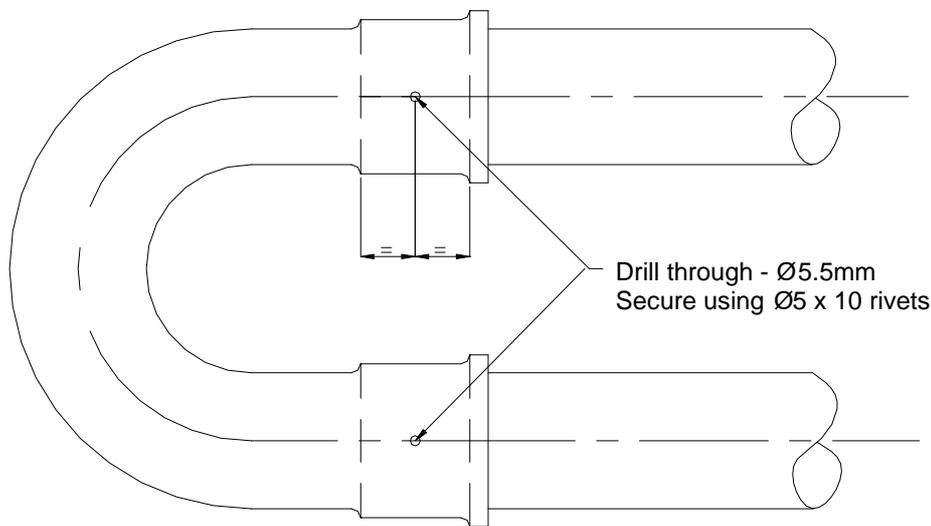

Fig. 21
- 4.4.2 Assemble the U Bend to the short Radiant Tubes, ensuring that the U Bend engages fully. Drill one Ø5.5mm hole through the U Bend and Radiant Tube in the upper surface of each leg of the U bend at a distance midway along the swaged portion of the U bend as shown in Fig 21. Rivet the U Bend to the Radiant Tube assemblies using the two Ø5 x 10 rivets provided (fastenings pack).